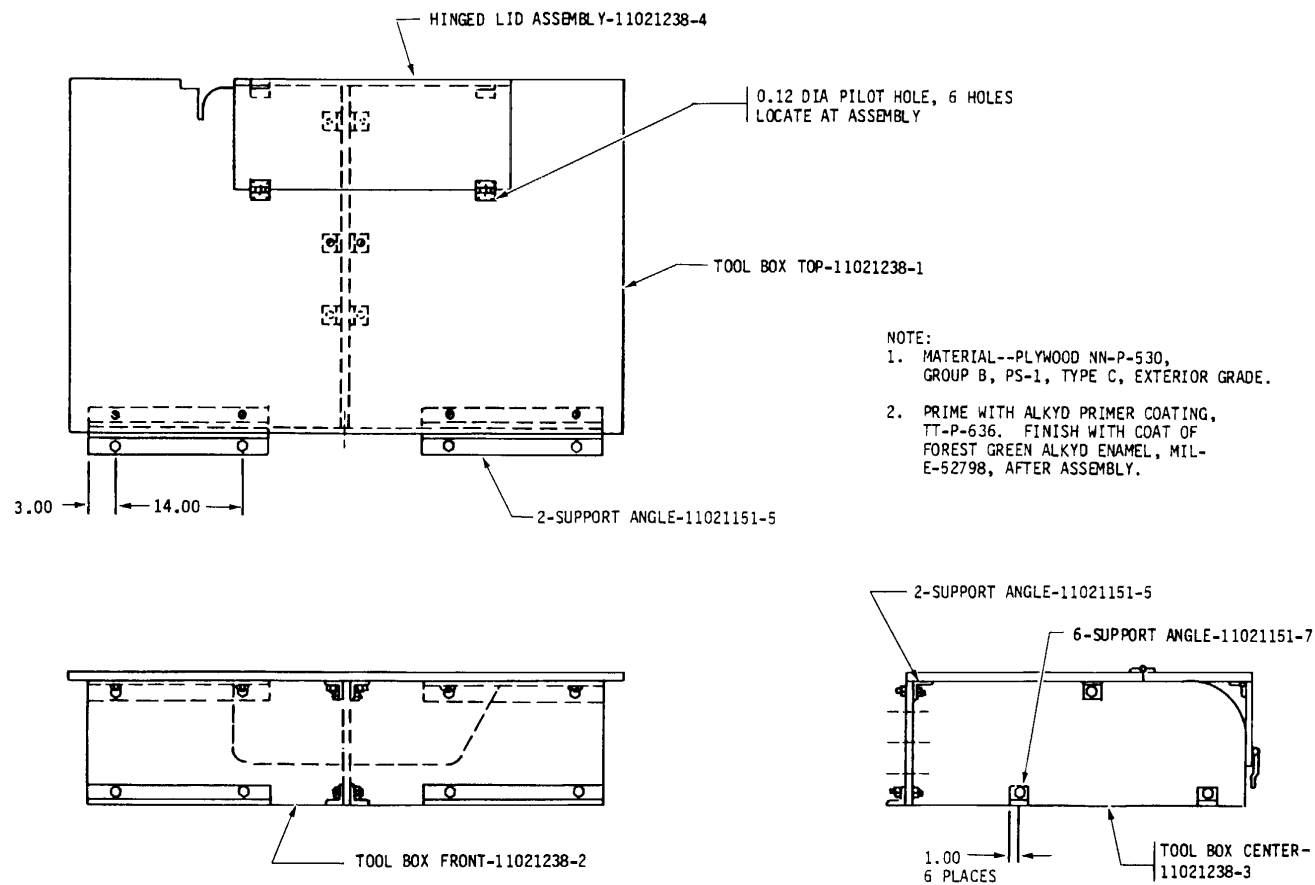

Figure 4. Components of Tool Box Assembly, 11021238.
Refer to figures 4 thru 10 for dimensions of components to be fabricated and to table 3 for quantity needed.
(1) Position six support angles (11021151-7) on tool box center (110212383) in accordance with figure 4. Secure support angles to tool box center, using three 5/16x 2-in. hex head capscrews (MS90725-40), three 5/16-in. flat washers (MS27183-11), three 5/16in. lockwashers (MS35338-45), and three 5/16-in. hex nuts (MS51967-5).
(2) Position tool box center (11021238-3) and tool box front (110212382) in accordance with figure 4. Secure tool box front to tool box center, using three #10 x 1-1/2-in. flat head wood screws (MS35492-80).
(3) Position four support angles (11021151-5) on tool box front (110212382) in accordance with figure 4. Secure support angles, using eight 5/16x 13/4-in. hex head capscrews (MS9072539), eight 5/16-in. flat washers (MS2718311), eight 5/16-in. lockwashers (MS3533845), and eight 5/16-in. hex nuts (MS519675).
(5) Position tool box top (110212381) on tool box center (11021238-3) in accordance with figure 4. Secure tool box top, using six 5/16x 1-1/2-in. countersunk head machine screws (MS35190308), six 5/16-in. lockwashers (MS3533845), and six 5/16-in. hex nuts (MS519675).
(7) Position hinged drop lid and hinged top lid in cutout in tool box top (11021238-1) in accordance with figure 4. Using two butt hinges attached to hinged top lid (11021238-4-A) as templates, mark and drill six 0.12-in. diameter pilot holes. Secure hinged drop lid and hinged top lid to tool box top, using six #8 x 5/8-in. flat head wood screws (MS35492-51).